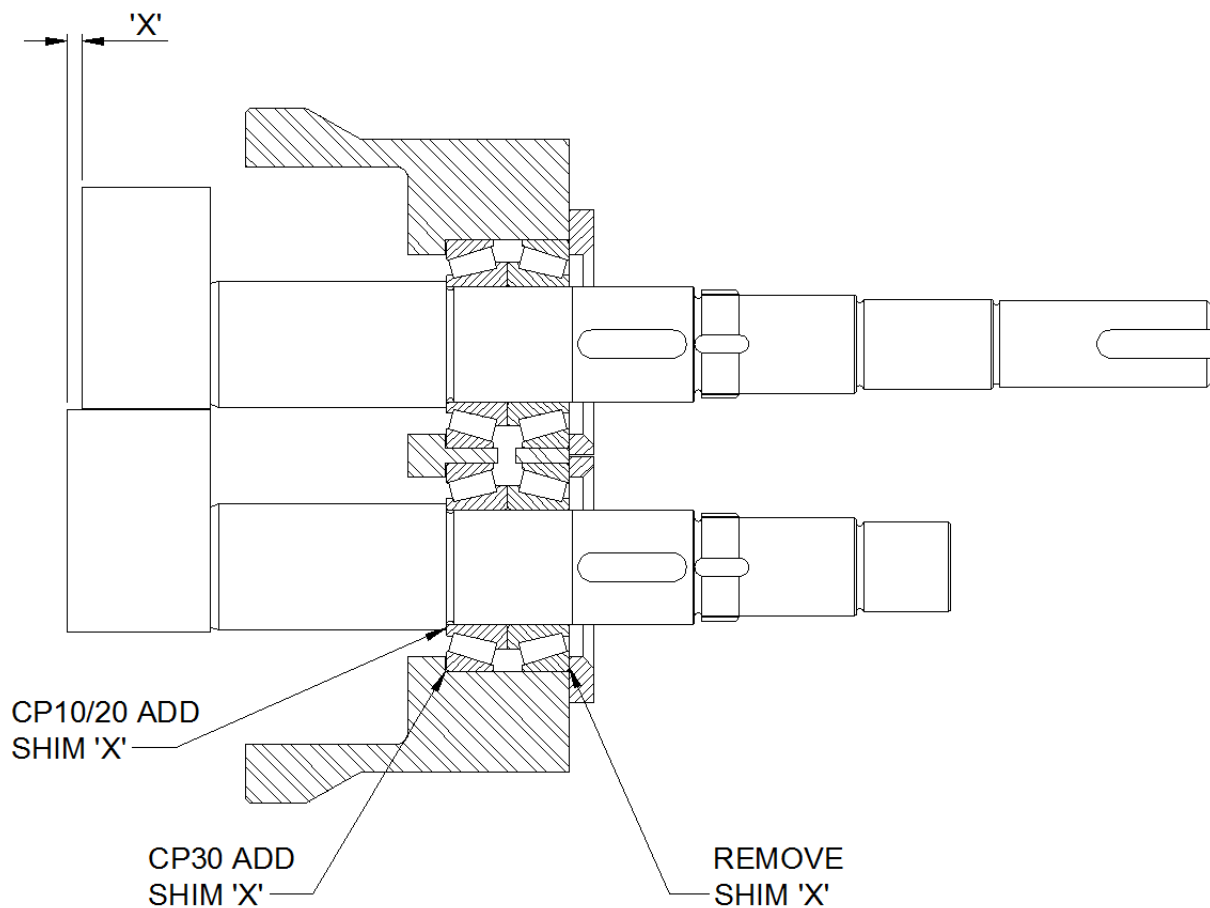

Fig 25 Rotor / Bearing abutment setting.
- Using a depth micrometer or similar device measure any difference (X) in rotor front face alignment, see Fig 25. If a difference is found move shims (5.04) of thickness equal to the difference (X) from beneath the forward rotor's bearing retainer (5.06) and reposition under the front bearing (5.05) cup.